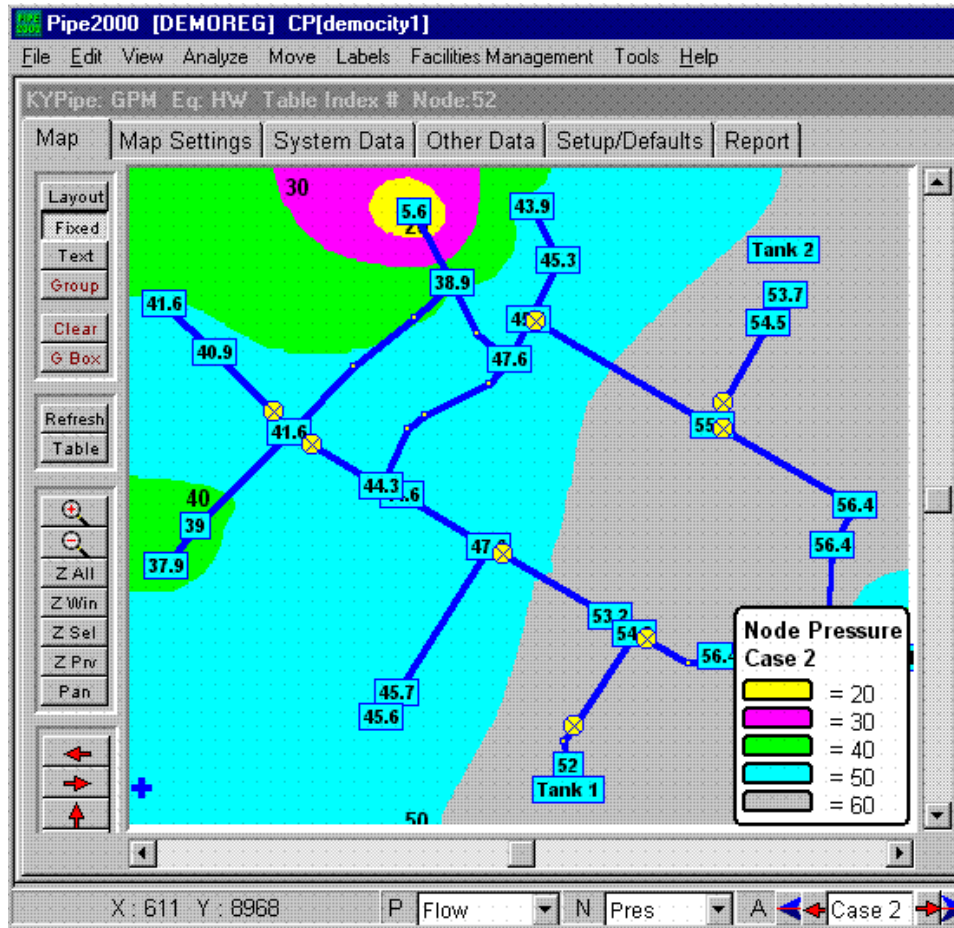

Figure C.7 Contours, Case 2
2) **Contours:** Contours are very effective means for showing results. Show pressure contours for Case 2 to illustrate this feature. Make sure **Pres** (pressure) is selected in the **N** box and Case 2 in the **A** box (**Results Selector** bar). Click on **Map Settings** and **Emphasis/Contours** and select **Pressure** (parameter). The contour values should be set at 20, 30, 40, 50, and 60. Click on **Show Contour**, then **Map** (top tabs) to return to the map. The pressure contours should be displayed (if not, click the **Refresh** button). Figure C.7 shows this display.